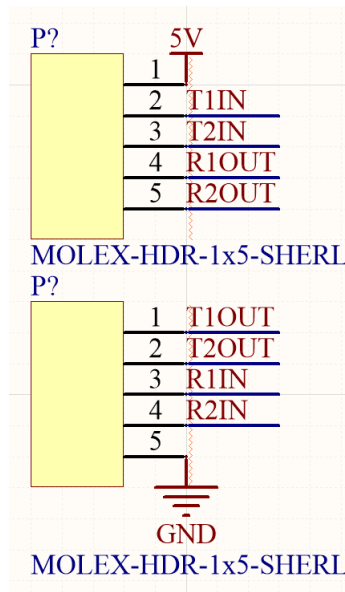

Figure 16: Net Labels for Connectors
31. Perform steps 28-30 again on your connectors to achieve the results in Figure 16.